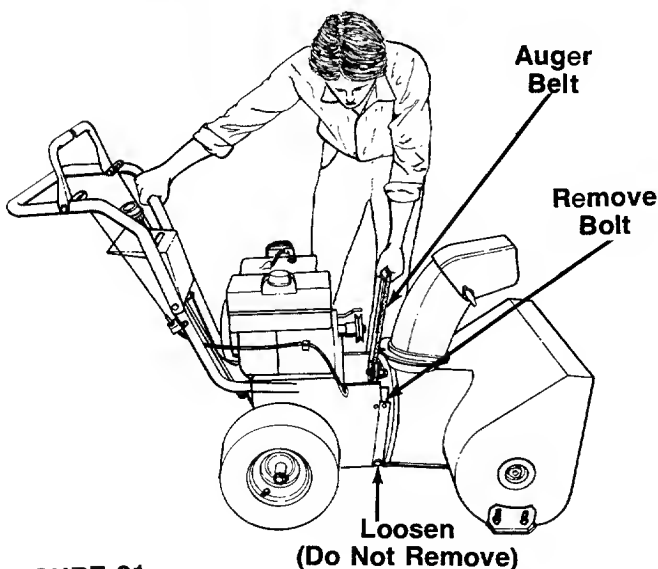

FIGURE 31.
- a. Using a 9/16" wrench, remove the top bolts which attach the auger housing to the frame assembly. Loosen (do not remove) the bottom bolts. See figure 31.